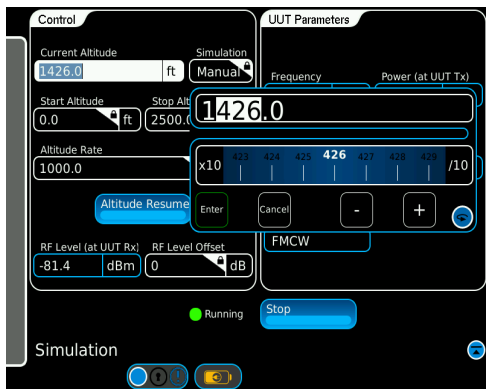

Fig. 16 Paused Altitude Rate / Manual Altitude Slew
2. Select **Run** Key to start simulation. Altitude Pause key is displayed (Fig. 16).